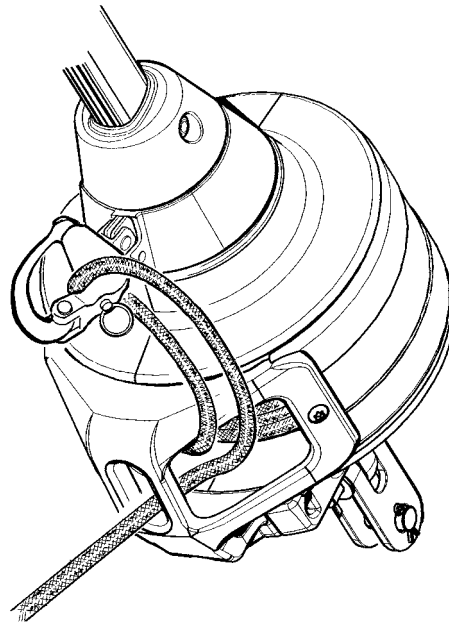

Fig. 6.2.a
- Secure the line in the tack snap shackle as per Fig. 6.2.a. Accidental unfurling is then prevented.